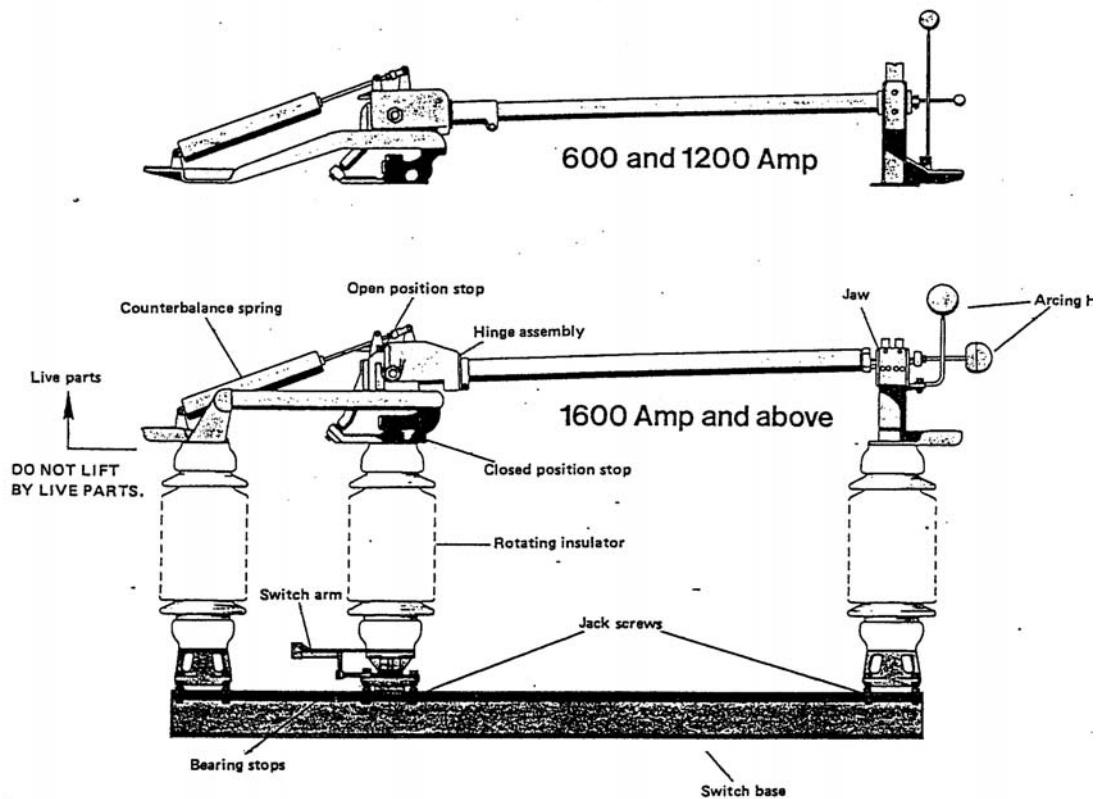
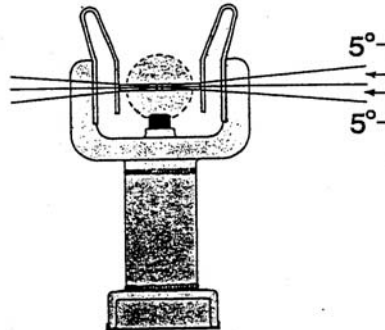

Figure 1 - Identification of parts (No scale)
Figure 9
10. The switch is fully closed and will have adequate contact pressure if the blade has rotated to within plus or minus 5° of perpendicular in the contacts as shown in figure 9. It may be necessary to adjust the closed position stop (see figure 1) to achieve good contact. Adjustment of the bearing stops may also be required.
11. If applicable, install the arcing horns. The blade horn is screwed into the threaded hole in the blade tip, and the jaw horn is bolted to the recessed tang on the jaw (see figure 1). The horns should touch *lightly* throughout their stroke. Arcing horns rubbing together with excessive pressure can cause the blade to rotate outside the contacts, causing switch malfunction. Bend the jaw horn as required to achieve enough pressure for contact, but not so much as to cause binding.